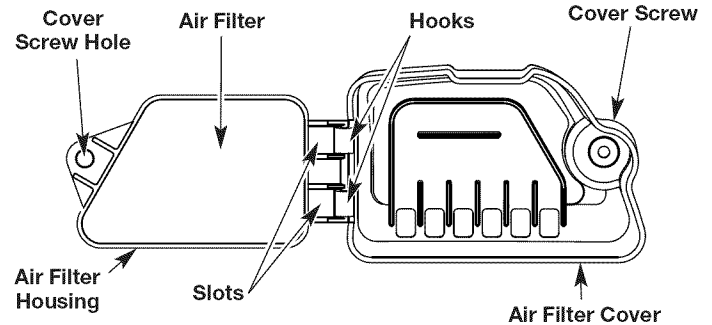

Fig. 16
7. Insert the hooks on the air filter cover into the slots on the air filter housing (Fig. 16).
8. Swing the air filter cover to the left and align the cover screw with the cover screw hole (Fig. 16). Tighten the cover screw to secure the air filter cover.